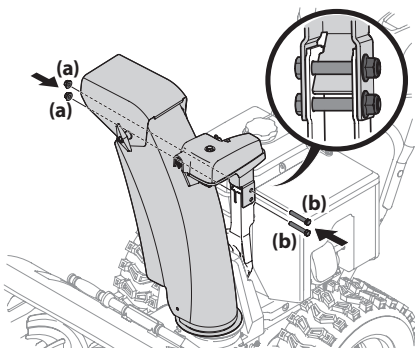

Figure 2-32
3. Secure chute control head to chute support bracket with lock nuts (a) and hex screws (b) removed in Step 1. See Figure 2-32.